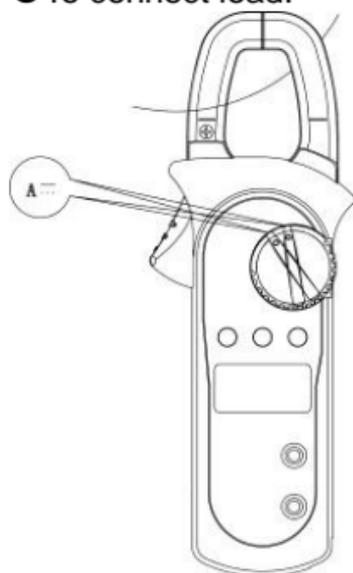

Figure 11
9. DC current measurement ($\text{A} \text{---}$) (shown in Figure 11)